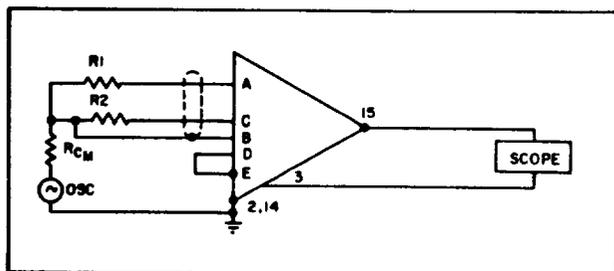

Figure 6-5. Common-Mode Rejection Test Circuit
- 1) Connect the amplifier as shown in Figure 6-5. Use an H-P 200CD oscillator or equivalent for the common-mode generator when testing the standard amplifier; use a step-up transformer between the oscillator and amplifier to provide up to 250 volts peak when testing amplifiers with gain multipliers. Use an oscilloscope capable of measuring 10 millivolts. R1 and R2 are 0-1000 ohm resistors. RCM is a 0-100K ohm resistor.
- 1) Connect the amplifier as shown in Figure 6-5. Set R_1 , R_2 , and $R_{cm} = 0$.
- 6) Repeat step (4) with trimpot R10.
- 1) Connect the amplifier as shown in Figure 6-5, Set R1, R2, and $R_{cm} = 0$.
- 7) Repeat step (5) with R10.